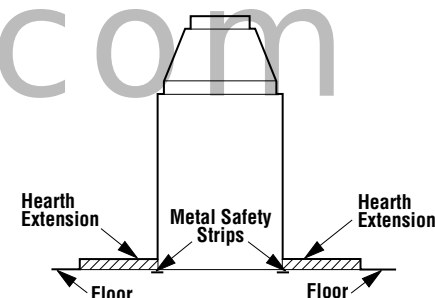

Figure 6
Step 2. Insert the provided metal safety strips, beneath the fireplace as illustrated (*Figures 6, 7 and 8*). The safety strips should overlap 1/2" for continual coverage of the floor.